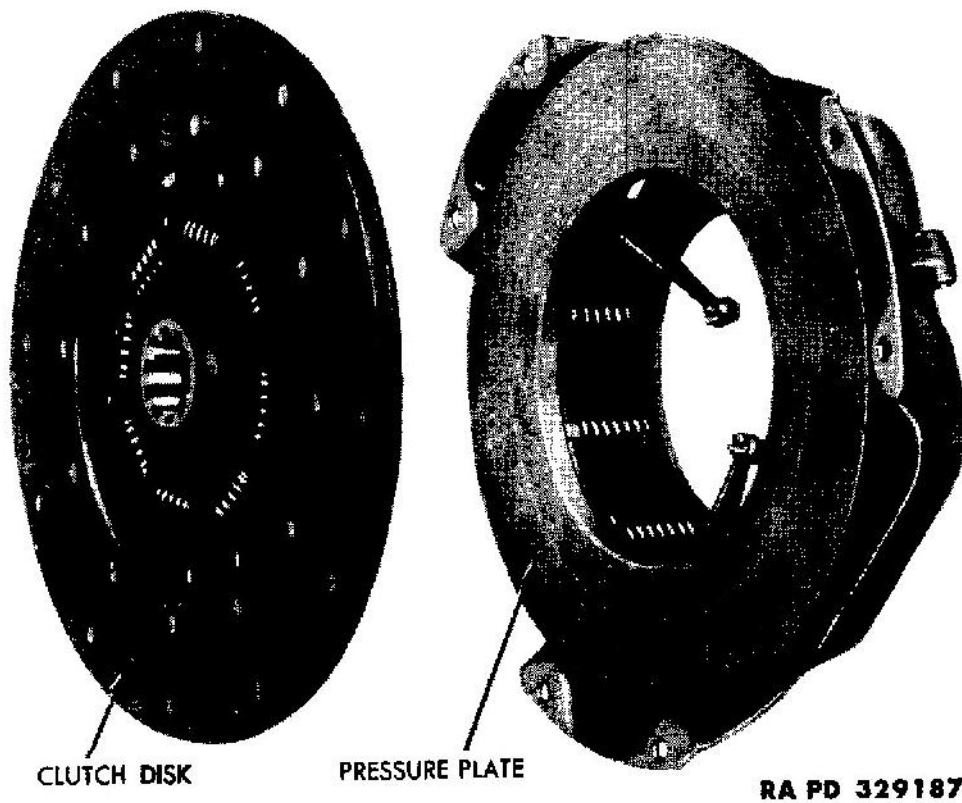

Figure 48 — Clutch Disk and Pressure Plate
a. Description. The clutch is a dry-type single plate clutch composed of two major units, the pressure plate and the driven plate or disk (fig. 48). The driven plate or disk has friction facings riveted to both sides.